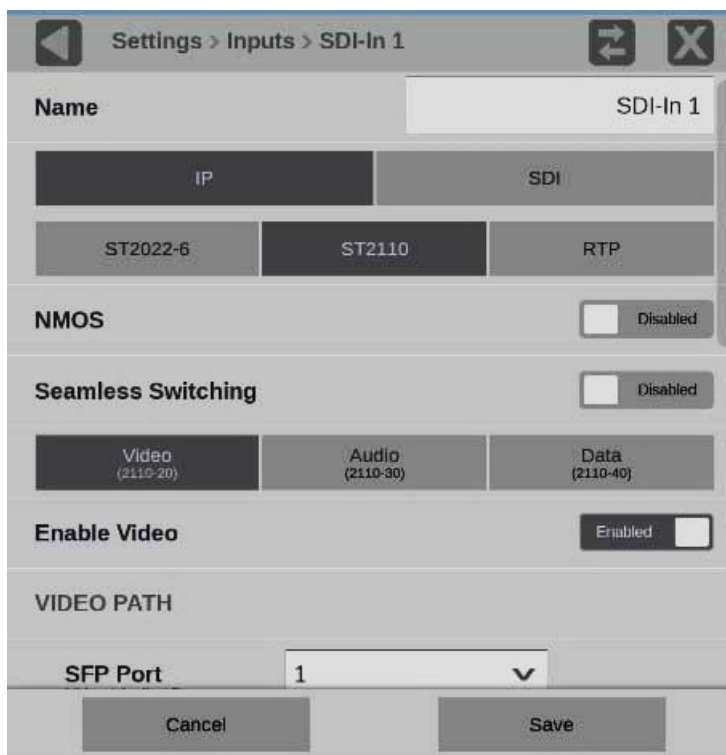

Figure 36: IP input protocols
4. Select **IP**. (See Figure 36.)